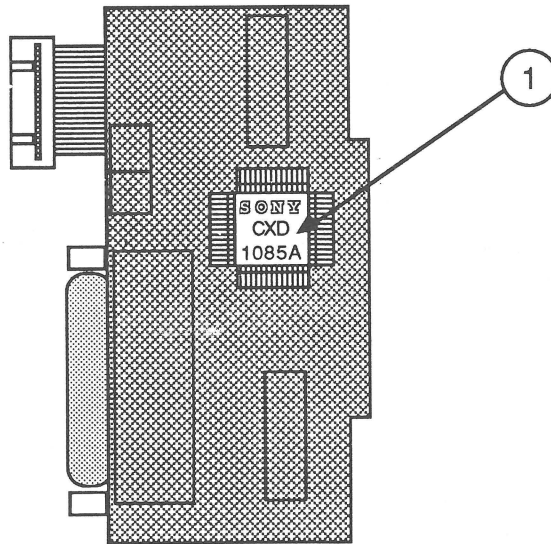

FIGURE 1
3. Locate the part number on the gate array component (Figure 1, #1). The gate array is located on the side of the daisy chain interface board without a cable. Part number CXD1085A indicates a Revision A board, and part number CXD1085B indicates a Revision B board. **If the part number is CXD1085A (Figure 1, #1), replace the Revision A board with a Revision B board.**